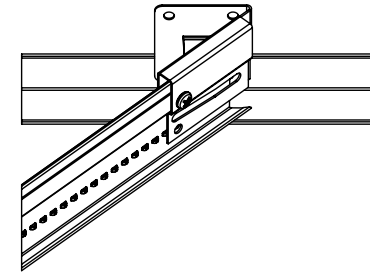

Fig 33
- Cross tees can be cut to length and secured to the wall molding with a BERC2 field modified to match the angle of the cross tee (**Fig 33**)